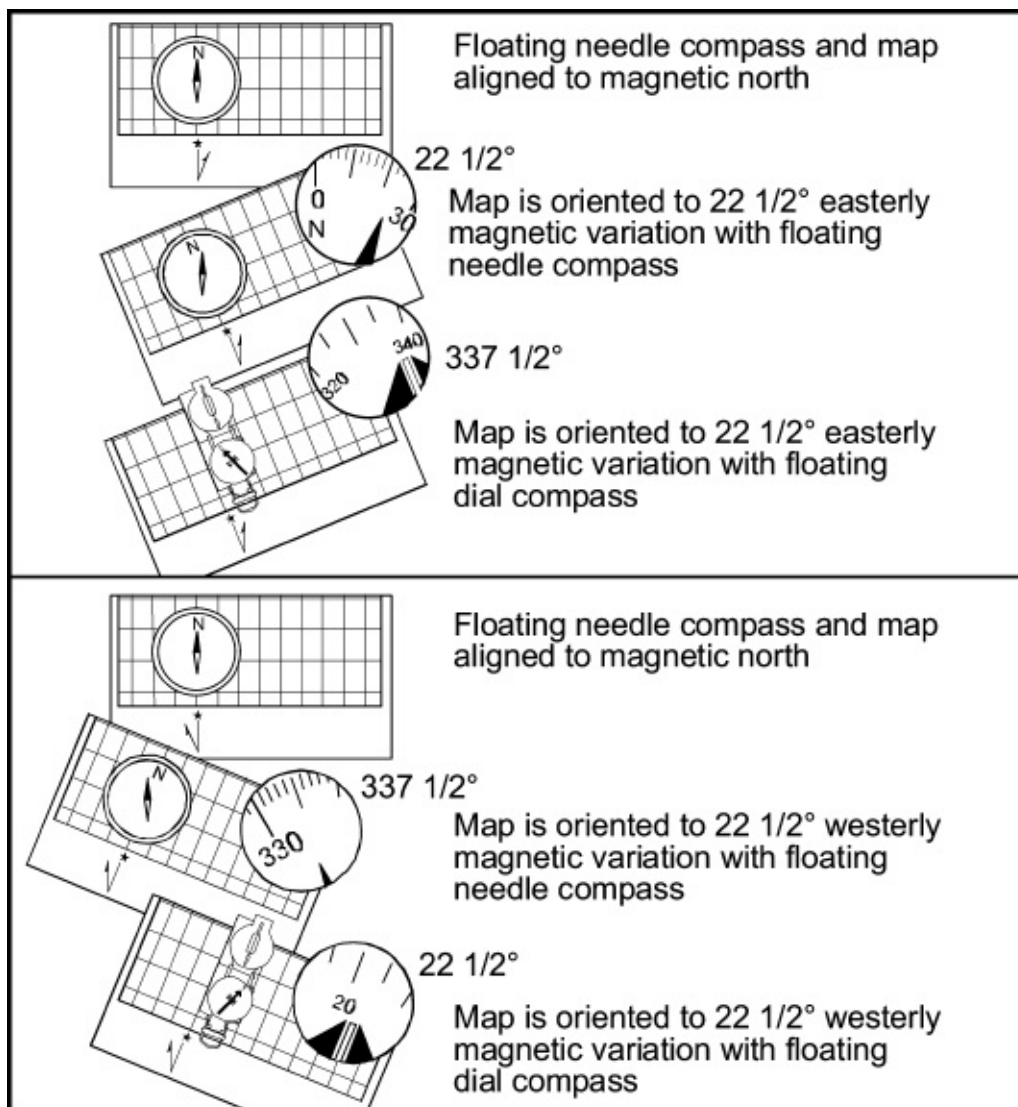

Figure 2-5. Orienting a map using a true north-south line
- (1) Using a true north-south line (**Figure 2-5**)—